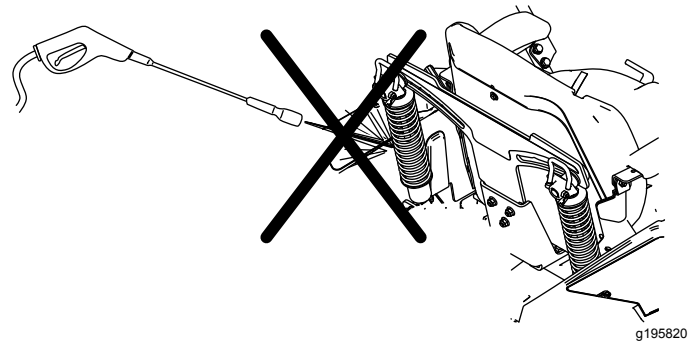

Figure 76
**Note:** Do not clean the shock assemblies with pressurized water (Figure 76).